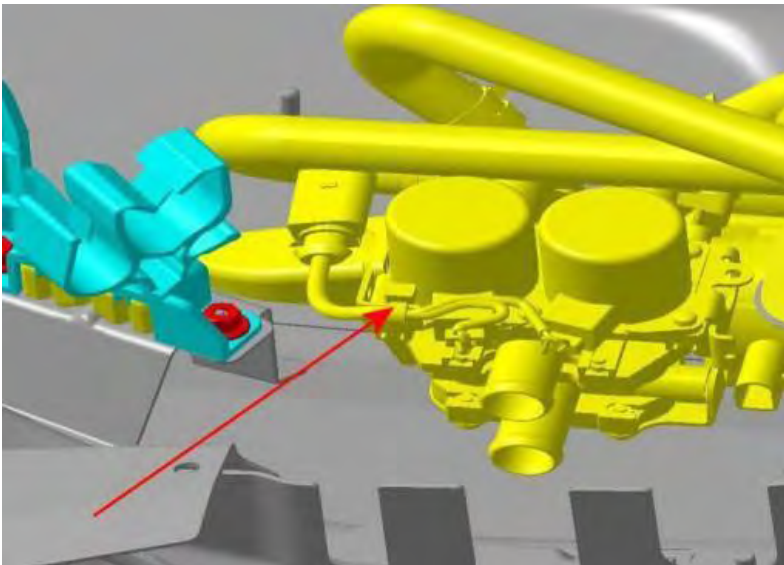

Figure 4
3. Remove the cable tie and discard - *Figure 4.*